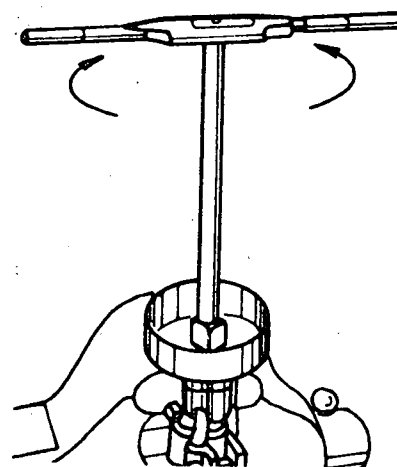

Fig. 5
- c) Ream the bushings, if necessary (fig. 5).